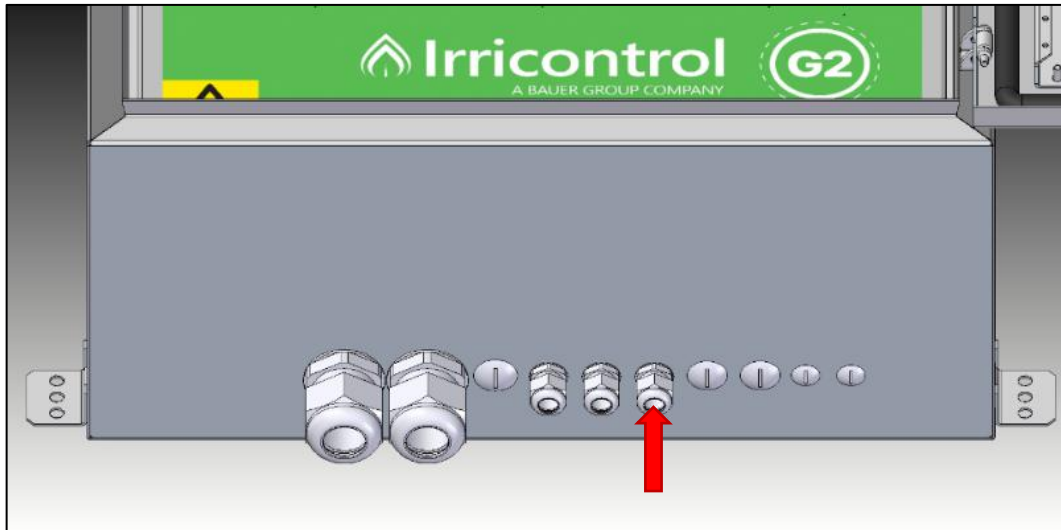

Figure 18 - Cable gland (PG) for SAF cables.
- A. If the SAF is purchased, pass its cables through the PG13.5 cable gland, shown in Figure 18.